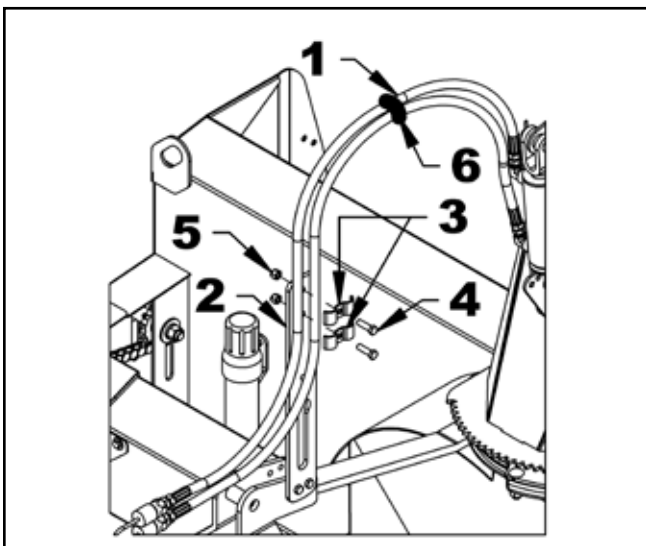

**Figure 34.** Attach Hose Support
- Figure 34: Attach the hose support (1) on the upper 3-point right hitch (2) with two 3/8" NC x 1 1/4" bolts (3) and 3/8" nylon insert locknuts (4).